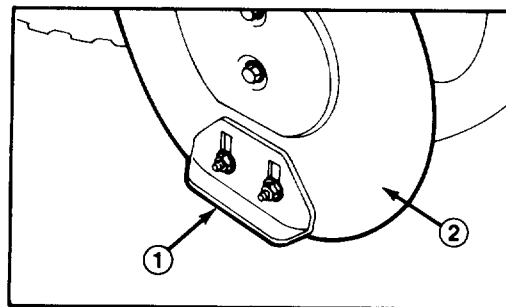

Figure 20
1. Move snowthrower to a level surface. Next, loosen four flange nuts (Fig. 20) securing both skids to auger side plates. Skids must slide up and down
3. Loosen four flange nuts (Fig. 20) securing both skids to auger side plates. Next, slide skids down as far as possible so auger is as far from level surface as skid adjustment allows; then tighten flange nuts.